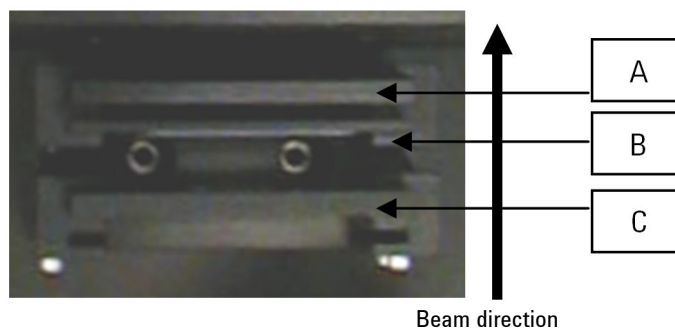

Figure 2. Infrared polarizer plane of polarization
The focused beam may pass through three optical elements before passing through the Photoelastic Modulator (PEM). As shown in figure 2 these elements are:
- Infrared polarizer (A in Figure 2): with the plane of polarization set parallel to the plane of incidence at the sample.
- UDR filter (B in Figure 2) location for UDR4 or UDR8 filter: The UDR filters are optical lowpass filters which transmit below $3,950\text{ cm}^{-1}$ (UDR4 filter) or $1,975\text{ cm}^{-1}$ (UDR8 filter), and are used with the UDR=4 or UDR=8 parameter setting, respectively, of Resolutions Pro software.
- Quartz window (optional, C in Figure 2): acting as a high pass optical filter transmitting above $2,000\text{ cm}^{-1}$. When used with the UDR4 filter (see below), allows data collection at UDR=8 for the bandpass between $3,950$ and $2,000\text{ cm}^{-1}$. To display data in the required range click 'Transforms' > 'Fourier Transform' > 'Advanced' and use the 'Included Frequency' parameter.
The filters and polarizers must be placed in the order as shown in Figure 2.